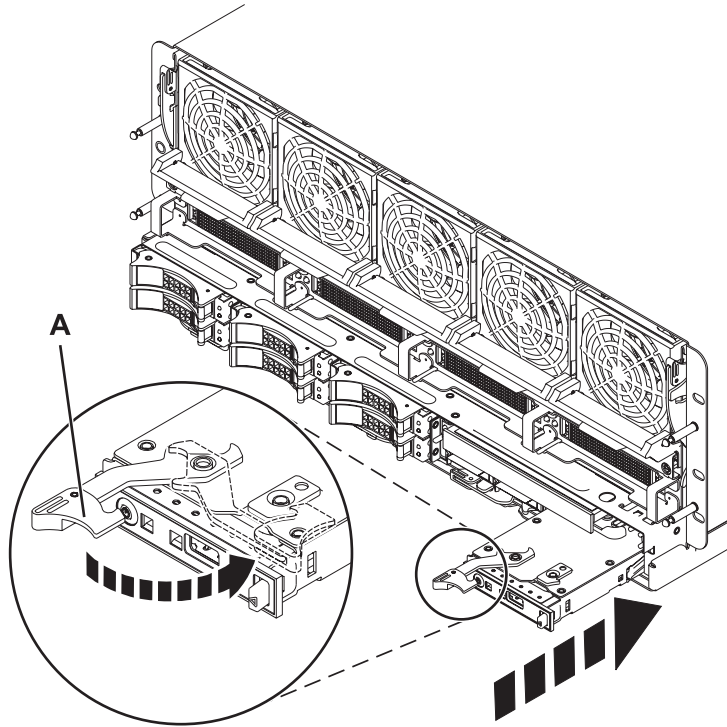

Figure 2. Installing a control panel
4. Install the new control panel, as shown in Figure 2 on page 6.
- c. Move the locking arm (A) to the right, and press in on the latch to lock in place, as shown in the following figure.